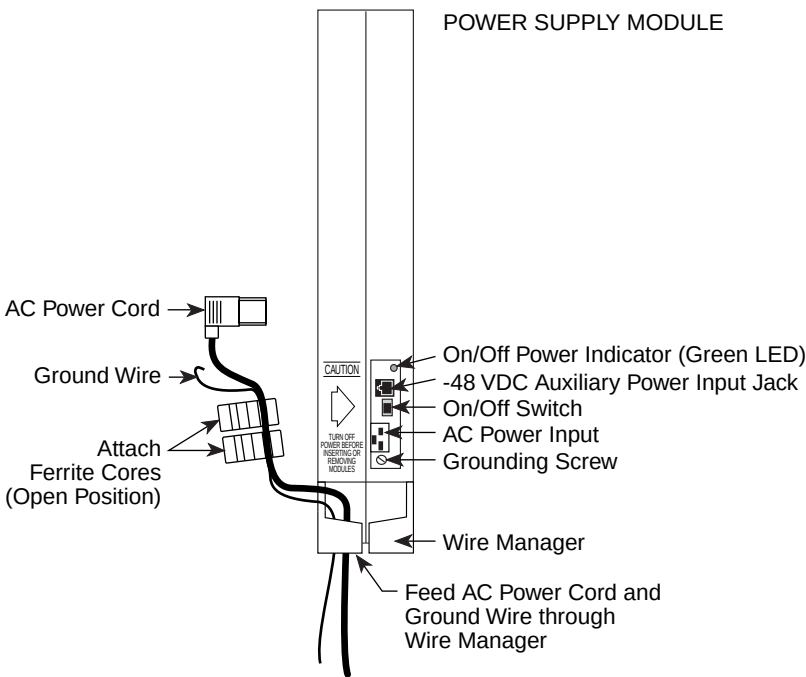

Figure 2-7. Installing the Ferrite Cores
- ▶ **1. Feed the AC power and ground wire through the wire manager (refer to Figure 2-7).**
- ▶ **5. Slide the ferrite cores between the wire manager and the power supply module (refer to Figure 2-7).**